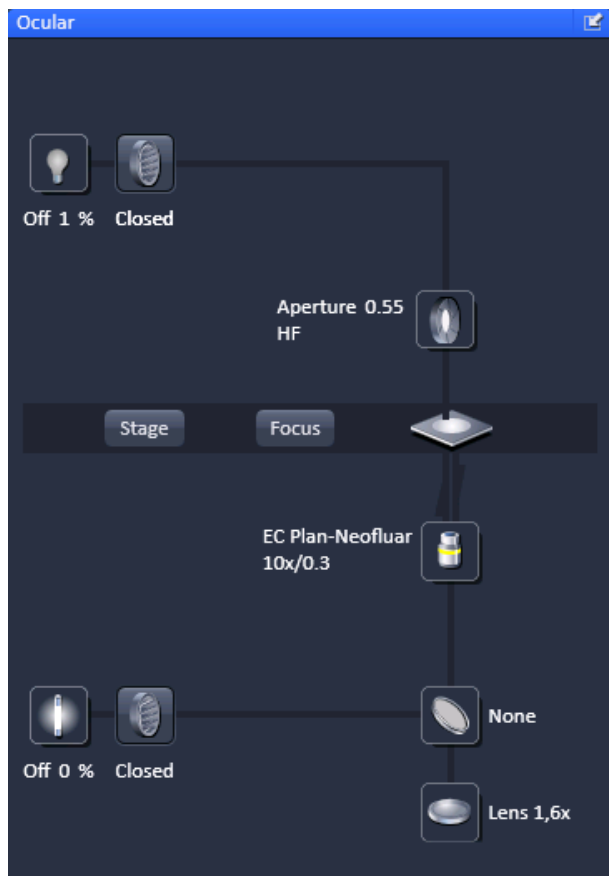

Fig. 12 Microscope Control window of the Axio Observer.Z1
Click on the **Locate** tab for direct observation; press the **Oculars Online** button for your actions to take effect immediately. Then open the **Ocular** tool tab to configure the components of your microscope like filters, shutters or objectives (Fig. 12).
- Open the graphical pop-up menu by clicking on the **Objective** symbol and select the objective lens for your experiment (Fig. 12).